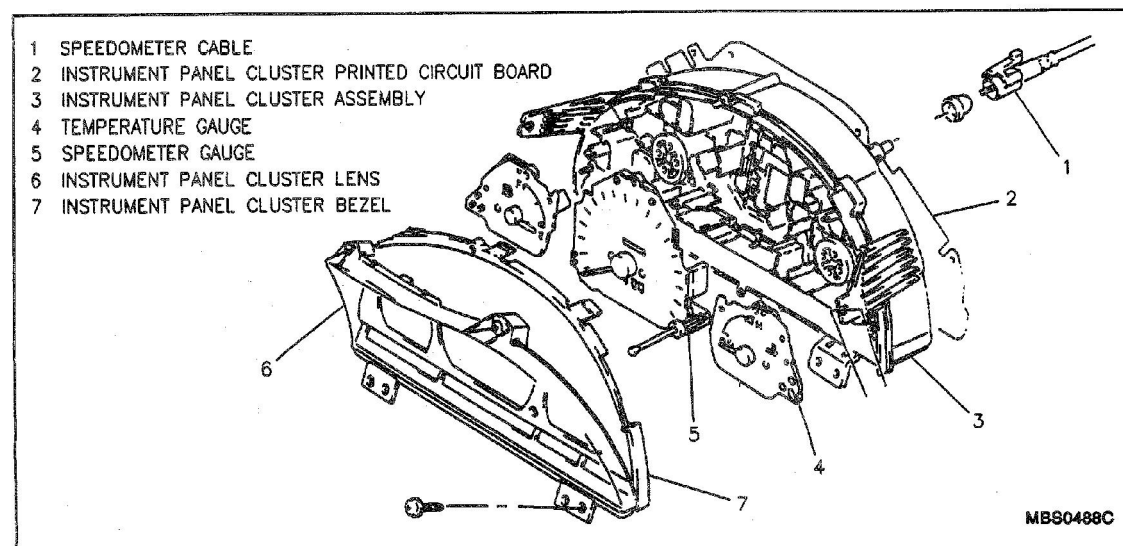

Figure 9—Instrument Cluster Assembly
Figures 9 and 10
3. Instrument cluster lens and bezel assembly from instrument cluster housing by releasing eight black plastic tabs (Figure 9).
6. Release seven plastic "clear" tabs and remove lens from instrument cluster assembly (Figure 9).